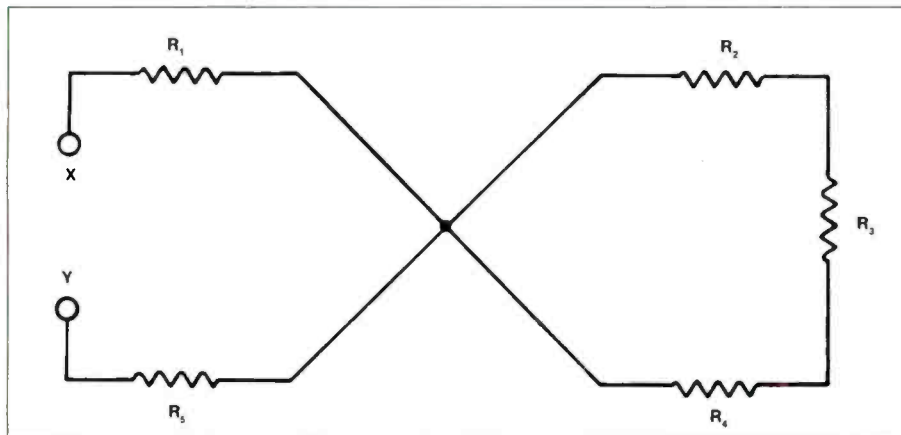

Figure 1. What is the voltage between 'x' and 'y'?
3. Assuming that each of the resistors in the circuit of Figure 1 is 25Ω, what is the resistance between terminals 'x' and 'y'?